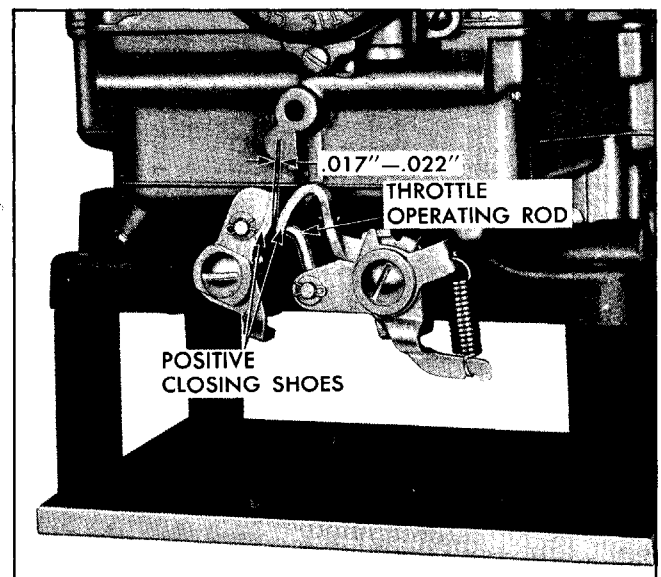

Fig. 6B-70 Primary and Secondary Throttle Levers
4. Check to see that there is .017" to .022" clearance between primary and secondary throttle positive closing shoes (Fig. 6B-70).